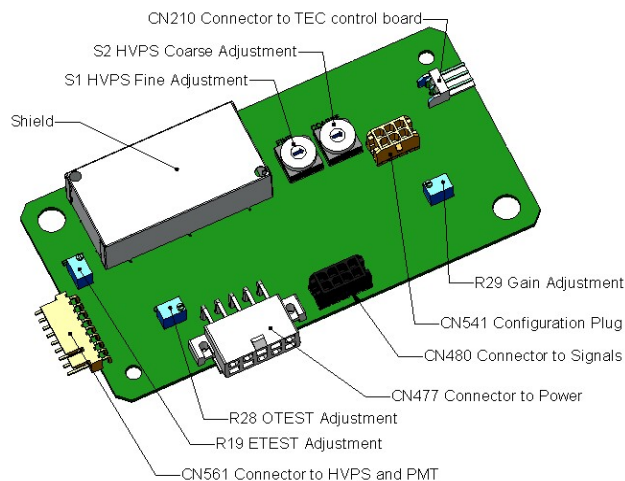

Figure 5-19. Pre-Amplifier Board Layout
4. Locate the following components on the preamplifier board (Figure 5-19):